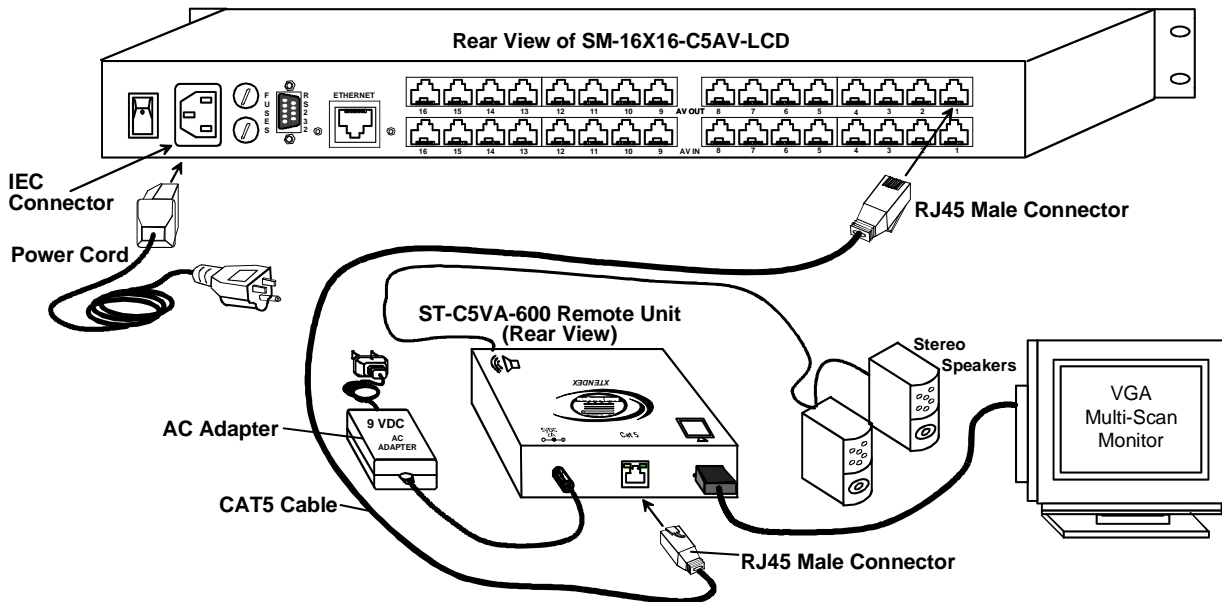

Figure 6- Attach ST-C5VA-600 Remote Unit to VEEMUX
5. Connect the powercord as shown in Fig. 6.